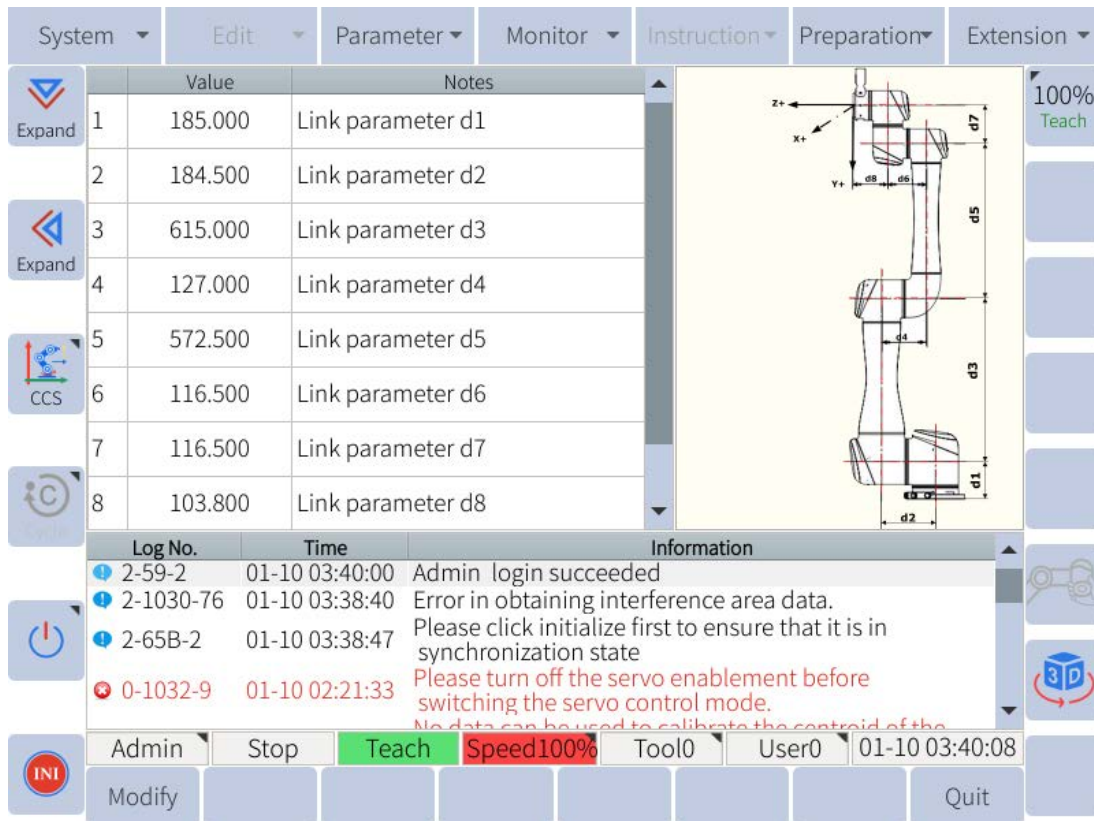

Figure 12-13 : DH parameter settings page
**Figure 12-13** shows the authority settings page. Here users can select the desired user level. The user levels and what settings are available to them are discussed in Subsection 6.5.1.